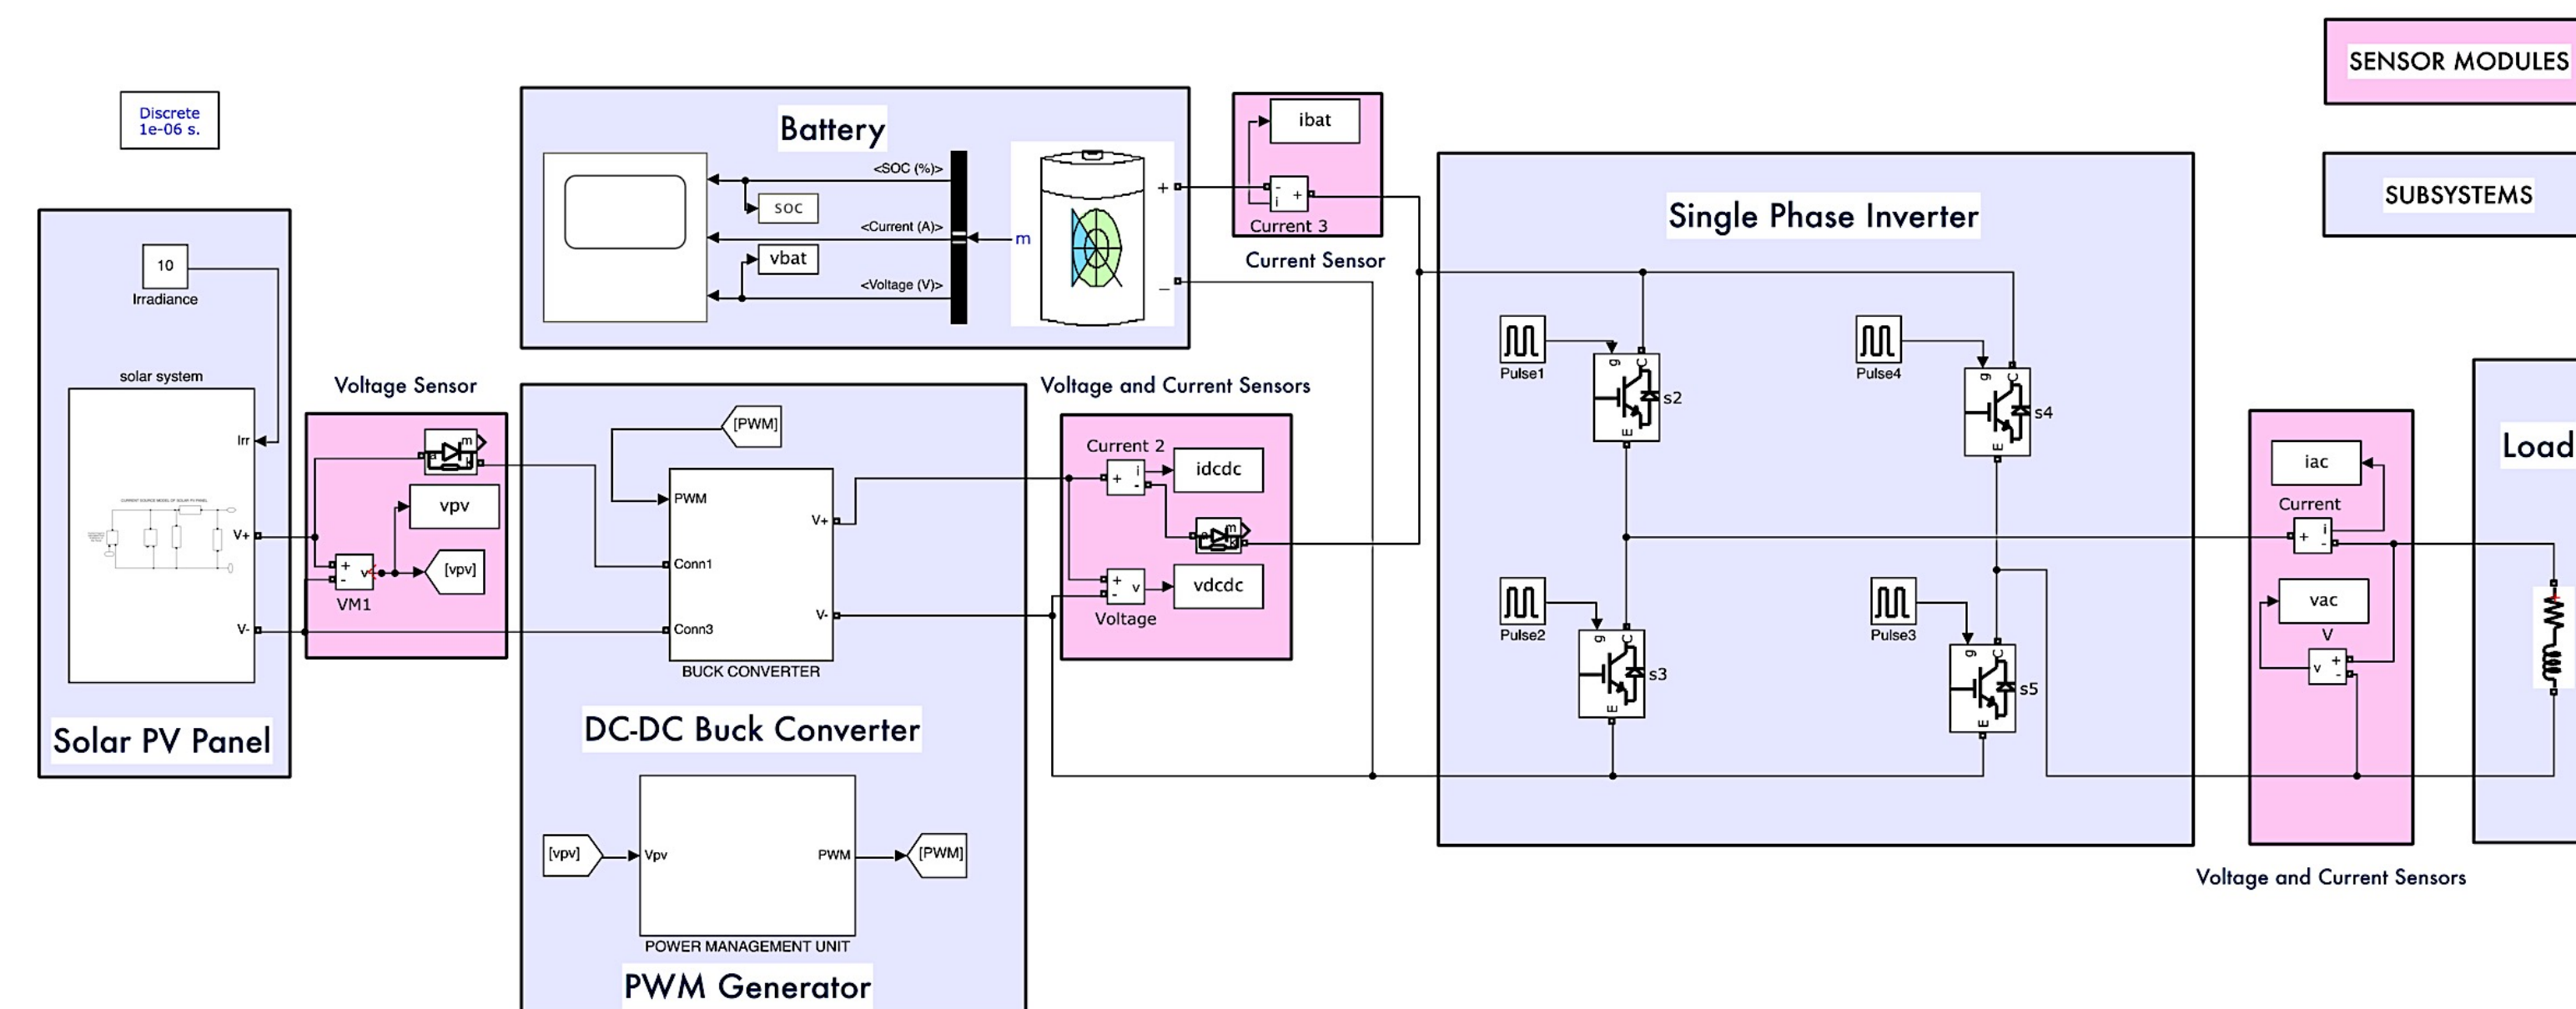

Figure 2: Test Bench Model of a Stand Alone PV System
- A Test Bench of a Stand Alone PV System is developed on Simulink/MATLAB as shown in Figure 2.